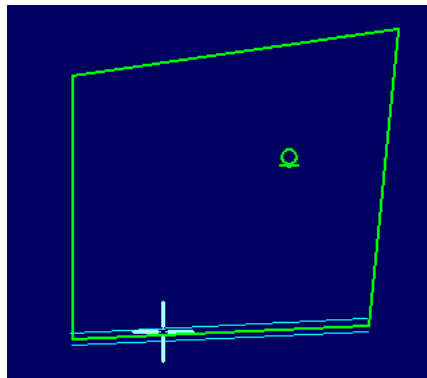

Figure 6.4.1 Appearance of the highlighting (Focusing) of a line of the map
3. Move the Trackball pointer over the line to be modified and a kind of highlighting lines will appear around the line (Figure 6.4.1).